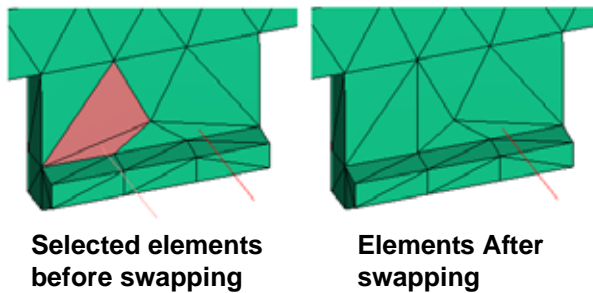

Figure 9: Swapping edges
- Figure 9 shows elements before and after swapping.